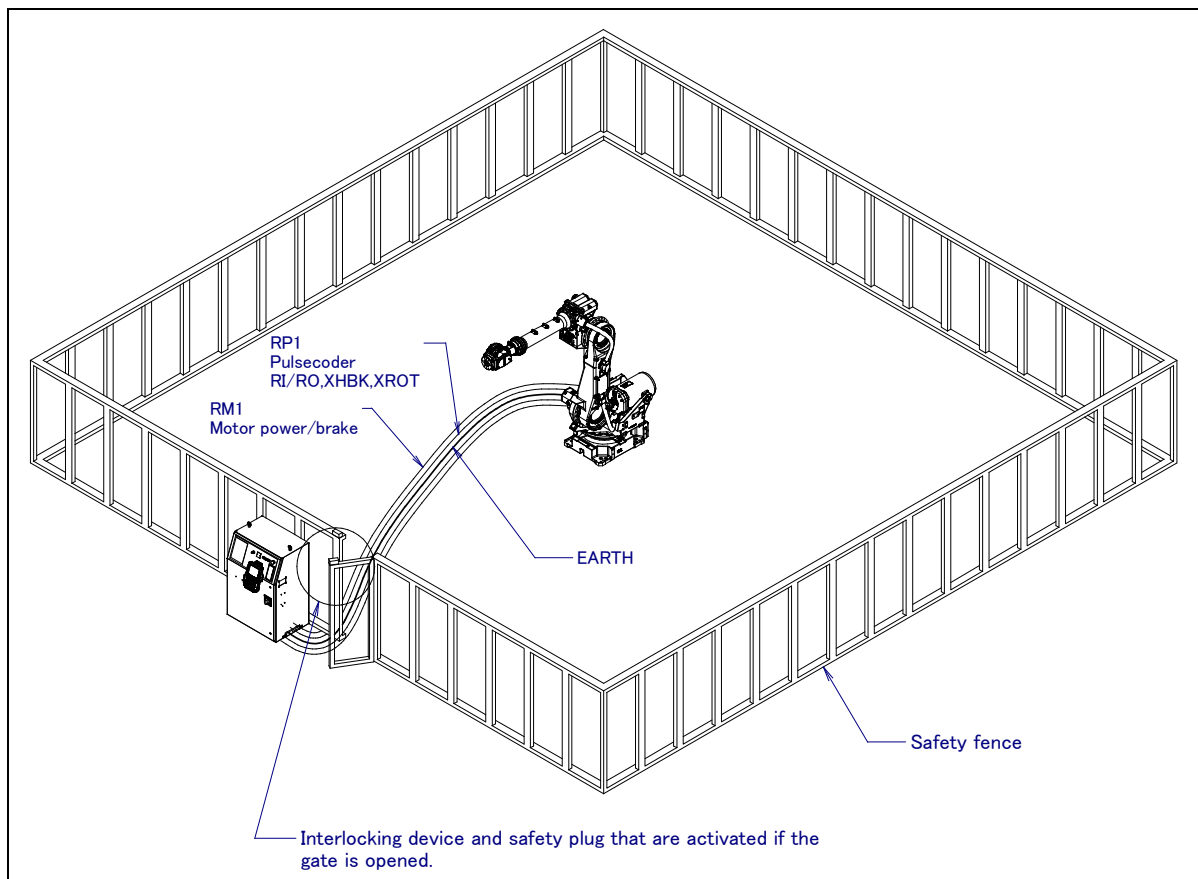

Fig. 2.4.2 (a) Safety fence and safety gate
- (9) When adjusting each peripheral device independently, make sure to turn the power off the robot.
- (10) Operators must take the gloves off while manipulating the operator's panel or teach pendant. Operation with gloved fingers may cause an operation error.
- (11) Programs, system variables, and other information can be saved on memory card or USB memories. Be sure to save the data periodically in case the data is lost in an accident. (Refer to Controller maintenance manual.)
- (12) The robot must be transported and installed by accurate procedure recommended by FANUC. Wrong transportation or installation may cause the robot to fall, resulting in severe injury to workers.
- (13) In the first operation of the robot after installation, the operation should be restricted to low speeds. Then, the speed should be gradually increased to check the operation of the robot.
- (14) Before the robot is started, it should be checked that no one is in the area of the safety fence. At the same time, a check must be made to ensure that there is no risk of hazardous situations. If detected, such a situation should be eliminated before the operation.
- (15) When connecting the peripheral devices related to stop (safety fence etc.) and each signal (external emergency, fence etc.) of robot. Be sure to confirm the stop movement and do not take the wrong connection.
- (16) In preparing the trestle, please secure the maintenance worker safety at high place in reference to Fig. 2.4.2 (c). Design with the Scaffolding and Safety harness with circumspection.